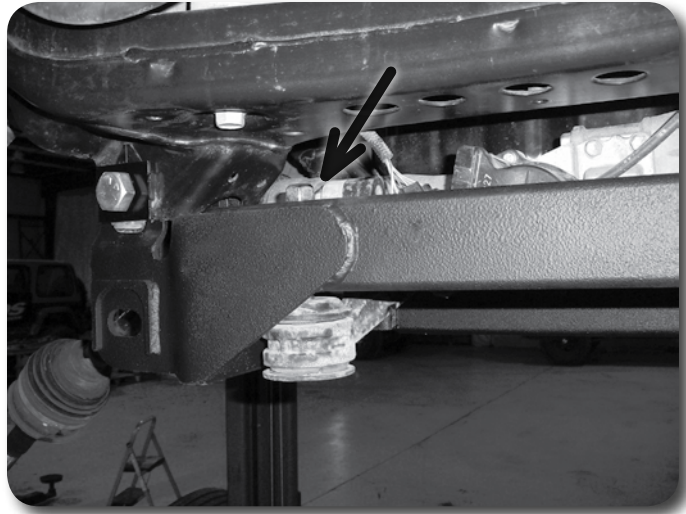

Figure 29
36. With the help of an assistant and an appropriate jack, raise the differential up to the new front crossmember. Align the holes in the factory differential mount brackets with the corresponding holes in the crossmember. Fasten the differential **Figure 29** to the front crossmember (through the holes with the crush sleeves) with 9/16" x 5-1/2" bolts, nuts and washers along with the large lower factory washer. Leave hardware loose.